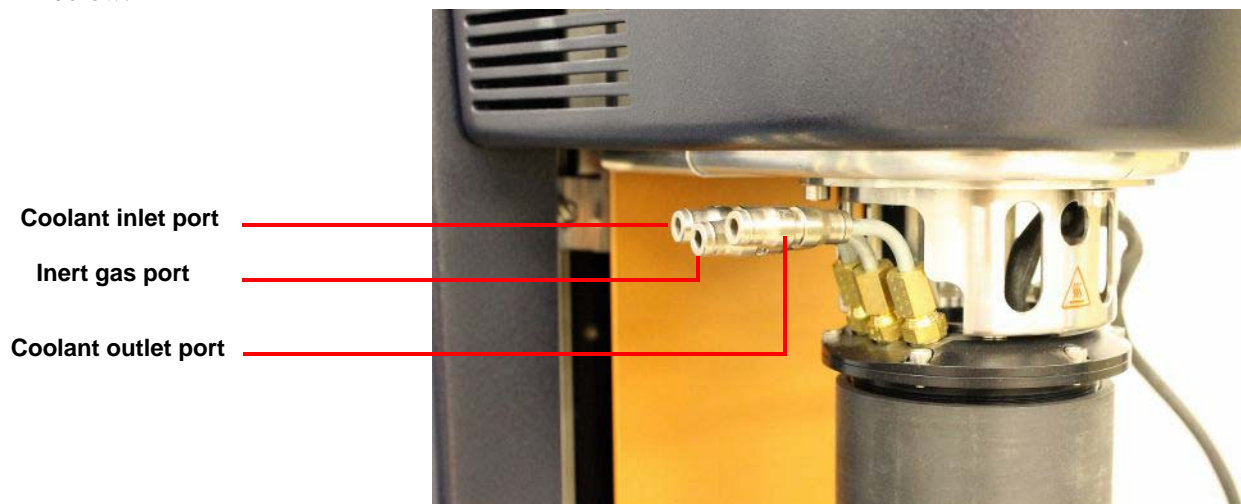

Figure 14 Coolant and inert gas connections for the UHP (DHR Series shown).
- 3 Connect the **GAS / LIQUID** outlet port on the CCU to the **Coolant Inlet** port on the Upper Heated Plate using the 4 mm outer diameter tubing (blue) and the 4 mm to 6 mm adapter provided. Refer to Figure 14.